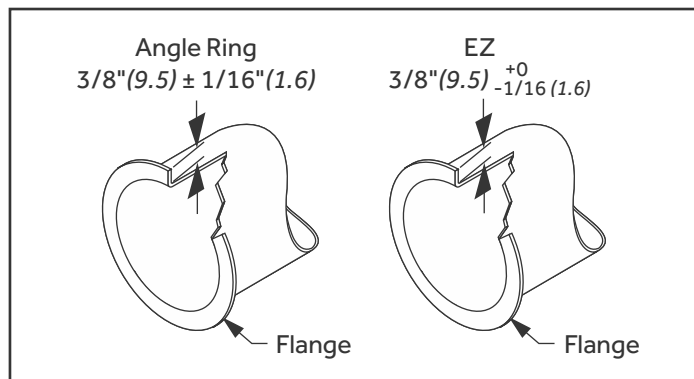

Fig. 20: Flange Height Dimensions & Tolerances
6. Set Flange Height: Once the backstop is installed, it should be adjusted to slightly more than 3/8" (9.5) depth from the roll faces and locked in place. This dimension sets the height of the flange. We recommend that you experiment with some scrap pieces of duct to make sure the setting is producing the flange height desired. Fab-Tech generally uses a 3/8" (9.5) flange height. The tolerance for this flange height varies for the EZ and PermaShield companion ring joint types. If the piece will be used with a ring flange, the tolerance is $\pm 1/16"$ (1.6). If the joint has a clamp, the flange should not be higher than 3/8" (9.5) but it is allowed to be 1/16" (1.6) less, or 5/16" (7.9) high. This tolerance is important to the function of the clamped system. A quick check for correct flange height for clamped joints can be done by using an aluminum backing ring as a checking gage. (Fig. 20)